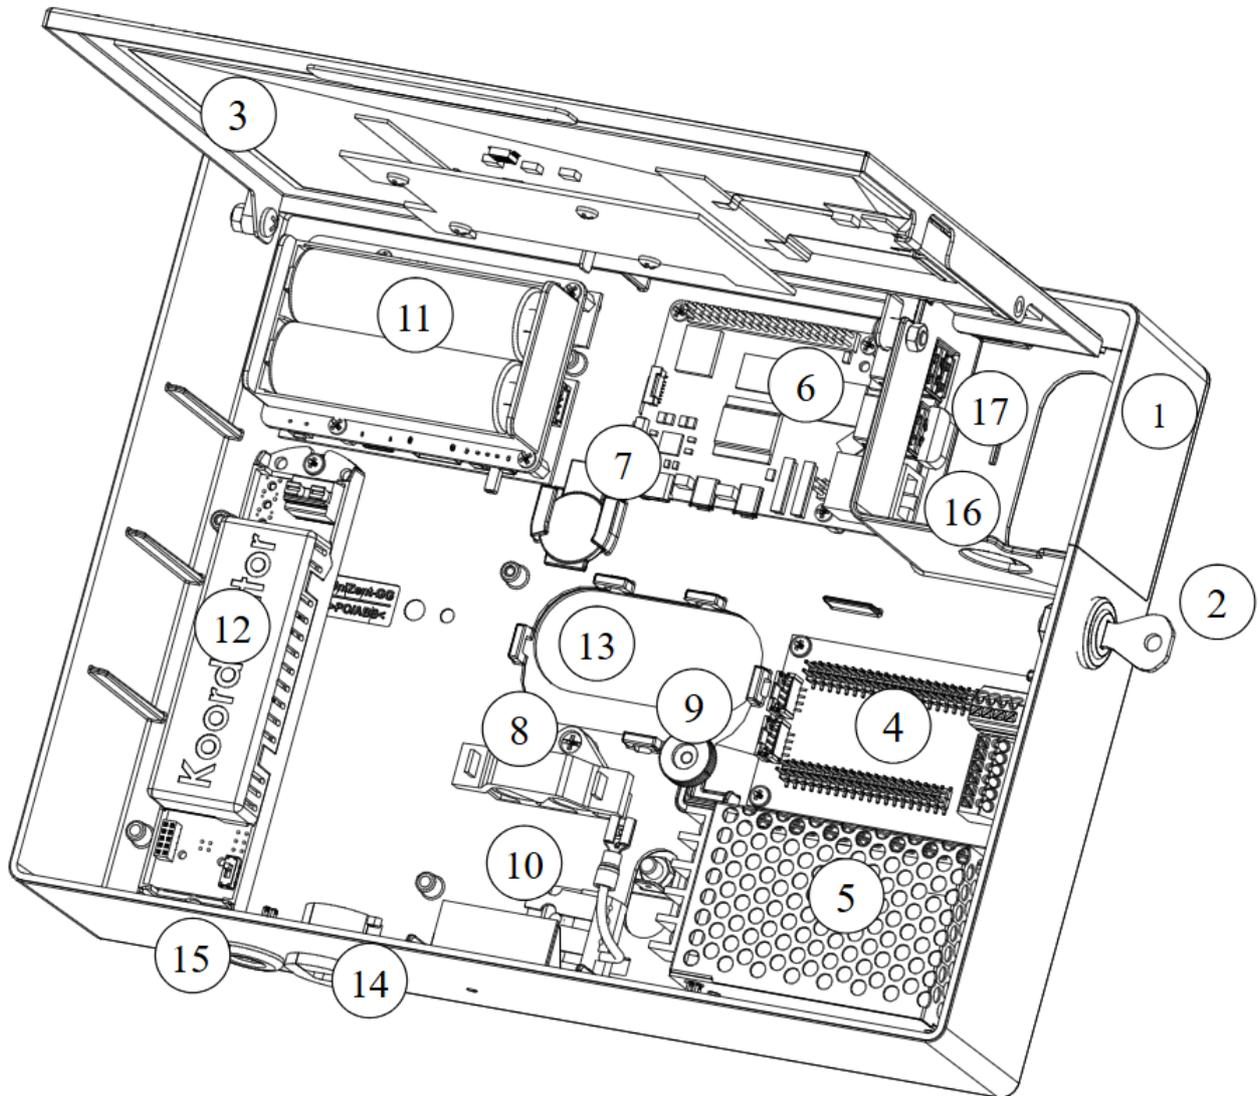

Figure 4 WLZent04, internal structure
**Important:** The internal backup USB stick (17, see Figure 4 WLZent04, internal structure) may only be removed when the WLZent04 is powered down. The WLZent04 function is not available without a backup USB stick.
The WirelessProfessional WLZent04 can be connected directly to the sub-distribution board using a permanently installed 3-core connection cable or to a power socket using the mains connection cable supplied. To do this, feed the cable into the housing and through the existing strain relief (8, see Figure 4 WLZent04, internal structure) to the 3-pole terminal (10, see Figure 4 WLZent04, internal structure). After connecting the cable, close the strain relief.
If the device has an integrated UPS unit (11, see Figure 4 WLZent04, internal structure), slide the toggle switch to the left to the “ON” position.
If the device has an integrated UPS unit (11, see Figure 4 WLZent04, internal structure), open the WLZENT04 housing and move the slide switch to the “OFF” position on the right.
The WirelessProfessional WLZent04 can be disconnected from the power supply 5 seconds after the red LED on the WLZent04 processor board (6, see Figure 4 WLZent04, internal structure) has appeared. The processor board can only be seen when the WLZENT04 housing is open.